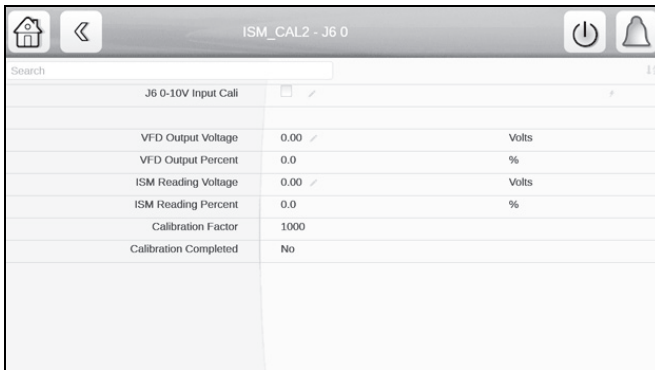

Fig. 47 — ISM_CAL2 Screen
4. Select J6 0-10V Input. The ISM_CAL2 screen is displayed. See Fig. 47.